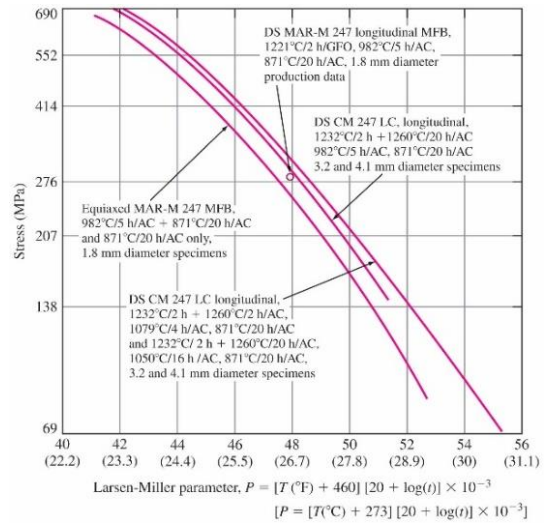

Fig. 7.31
(m) Equiaxed MAR-M 247 MFB alloy is to support a stress of 138 MPa (Fig. 7.31).
From Fig. 7.31: $P(\text{L.M.}) = [27.8 + (28.9 - 27.8)4/10] \times 10^3$ ① = 28240 ①